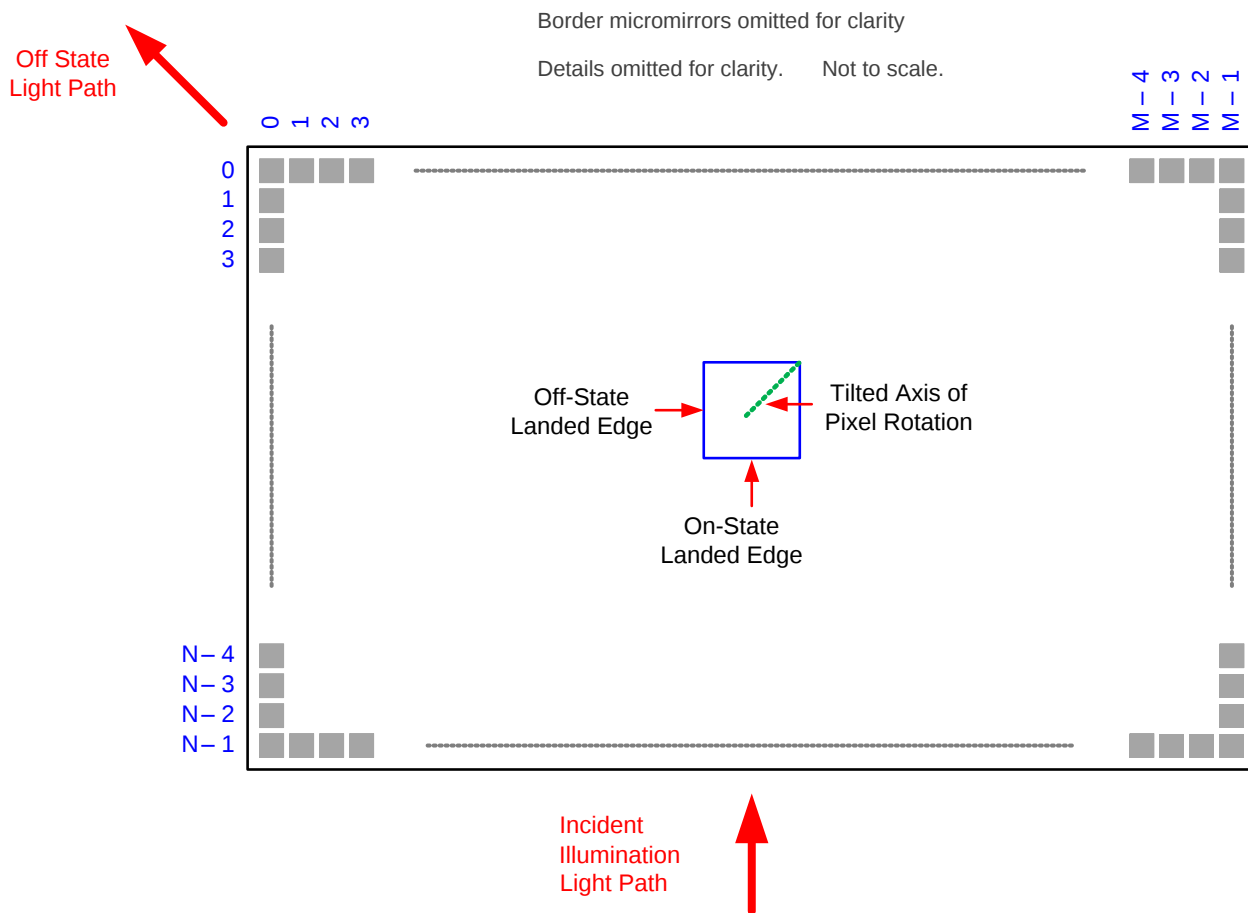

Figure 9. Micromirror Landed Orientation and Tilt
- (1) Limits on variability of micromirror tilt angle are critical in the design of the accompanying optical system. Variations in tilt angle within a device may result in apparent non-uniformities, such as line pairing and image mottling, across the projected image. Variations in the average tilt angle between devices may result in colorimetric and system contrast variations.
- (2) See Figure 9.
- (3) An out-of-specification micromirror is defined as a micromirror that is unable to transition between the two landed states within the specified Micromirror Switching Time.